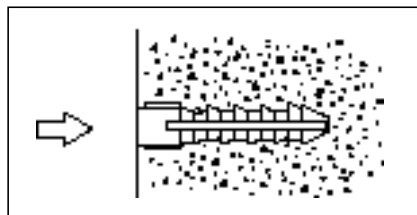

Figure 4
3. Tap anchor flush to wall as shown in Fig.4